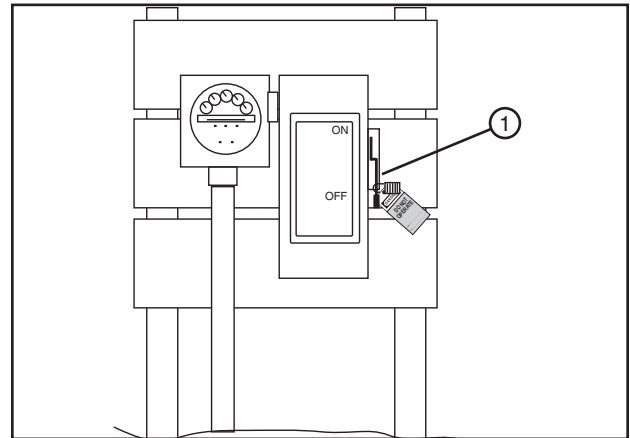

Figure 105-1 1. Public Power Service Disconnect
1. SHUT OFF and LOCK the public power service disconnect to the irrigation machine. See figure 105-1.
FILL OUT the blue (OSHA safety color code) tag and attach to the disconnect after locking. See figure 105-1.